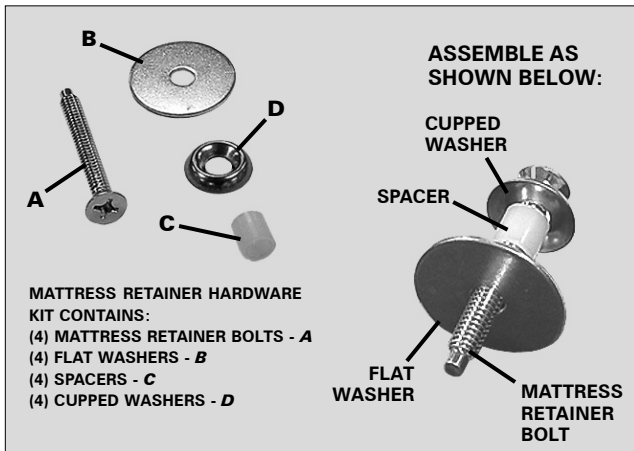

FIGURE 4: Mattress retainer hardware.
- a. Locate (1) mattress retainer and (1) mattress retainer hardware kit (bag).
- b. Install (1) cupped washer, (1) spacer and (1) flat washer on (4) mattress retainer bolts (FIGURE 4).